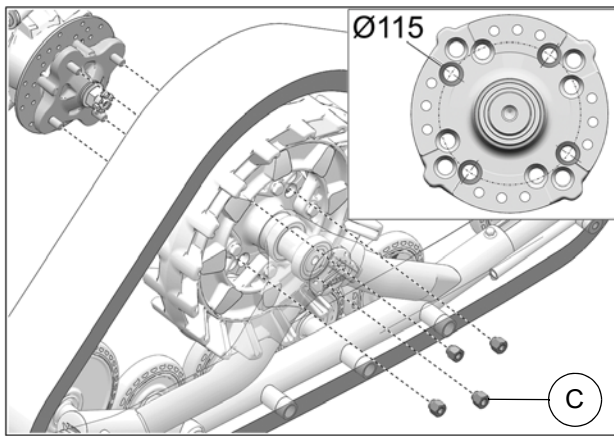

Fig. 9
8. Secure undercarriage to rear hub using the lug nuts (**C**) provided. Use bolt circle $\text{Ø}115\text{mm}$. See Fig. 9